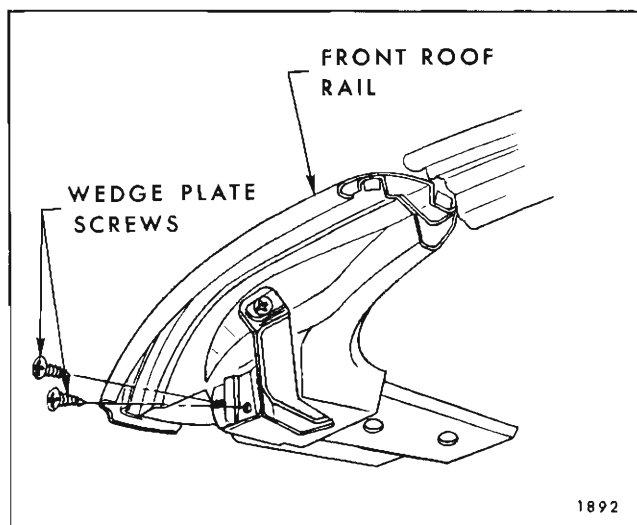

Fig. 5-I-53—Front Roof Rail Wedge Plate
2. Loosen wedge plate inboard attaching screw. (Fig. 5I53).